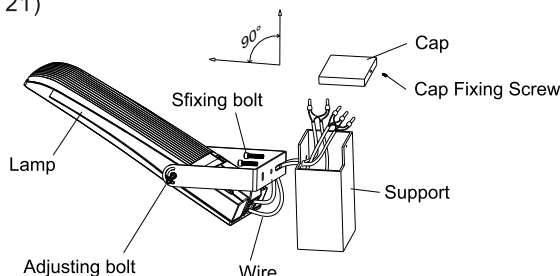

Figure 21
Step 1: Release the cap fixing screw and take the cap down; Fix the light on the support; Tighten the fixing bolts. (Figure 21)
Step 2: Let the AC wire through hole of the support; Wire AC line correctly and put it into the support; Tighten cap fixing screw. (Figure 21)
Step 3: Release adjusting screws; Adjust light angle as per actual demands; Tighten adjusting screws. (Figure 21)